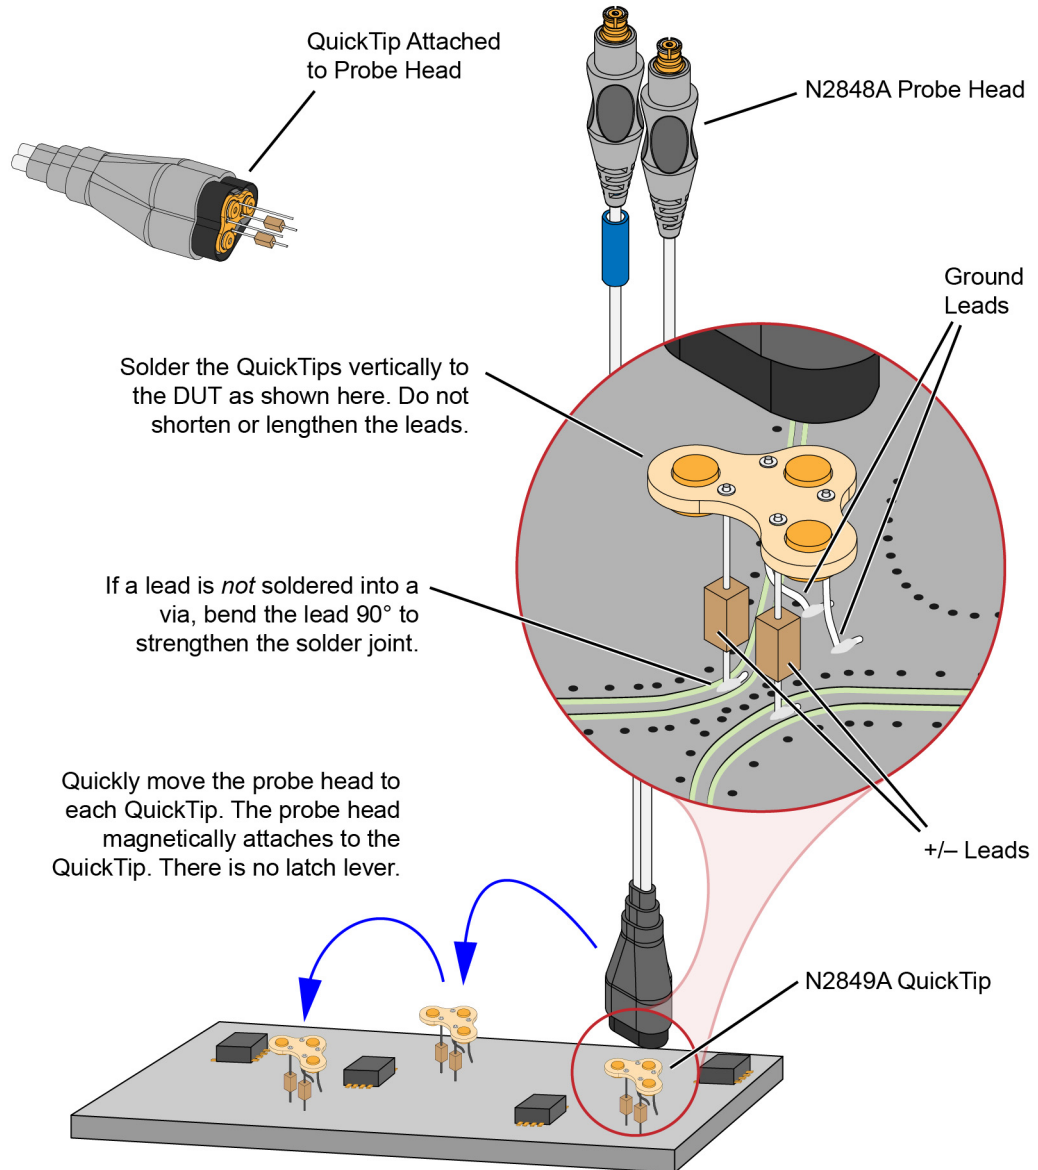

Figure 20 Probing with the N2848A Probe Head and N2849A QuickTip
Permanently solder any number of N2849A QuickTips to your DUT as shown in Figure 20 on page 30. Because the probe head is magnetically connected (instead of mechanically connected) to the QuickTip, you can effortlessly connect and disconnect to each QuickTip. For best performance, position the QuickTip vertically on the DUT. The N2849A QuickTip has two signal leads and two ground leads. The ground leads have minimal effect on your differential measurements. However, if you are making only differential measurements you
- Orient the QuickTip vertically as shown in **Figure 20** on page 30.